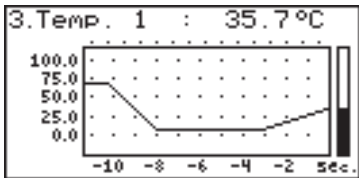

Fig. 6.6. "graph" mode
- "Graph" mode (Fig. 6.6) enables the momentary values or averaged values of measurements conducted for one of measurement channels to be viewed in the form of a graph.